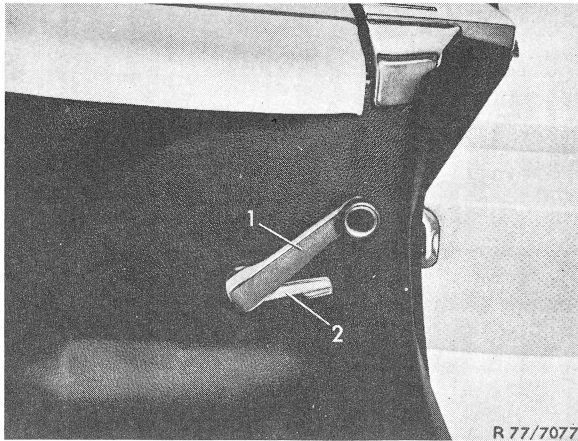

Fig. 1
- 1 Remove crank arm (1) on actuating lever (2) (Fig. 1).